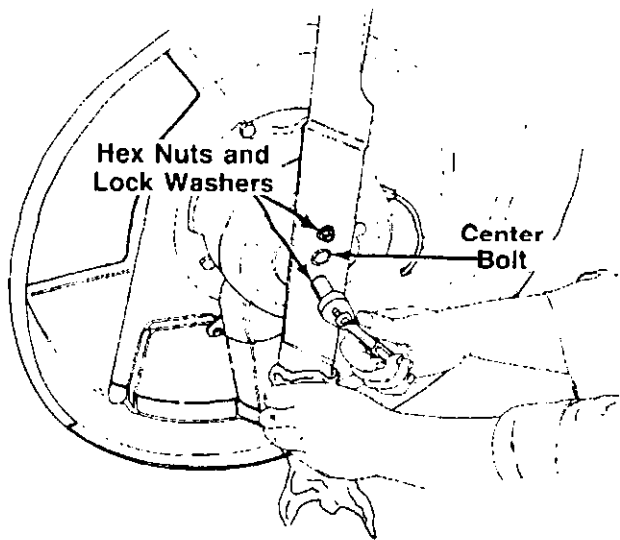

FIGURE 21.
To remove the cutting blade for sharpening or replacement, remove the two hex nuts and lock washers which hold the blade to the blade brake/clutch. Protect hands by using heavy gloves or a rag to grasp the cutting blade. See figure 21.
6. Remove the blade by removing two hex nuts and lock washers. Refer to figure 21.